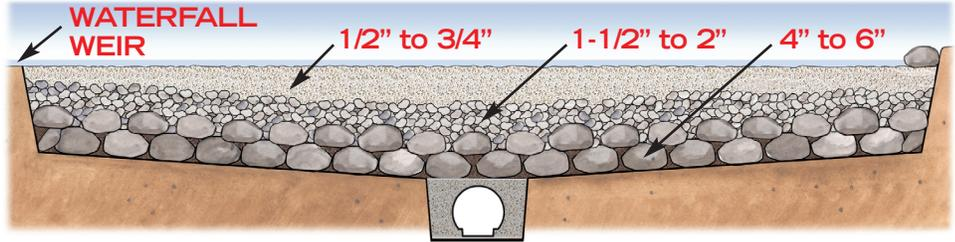

Figure 13
13. Pour another layer of smaller gravel, 1/2" to 3/4" over the other layer. This layer should completely fill the filter up to the level of the overflow or the waterfall weir. (Figure 13)